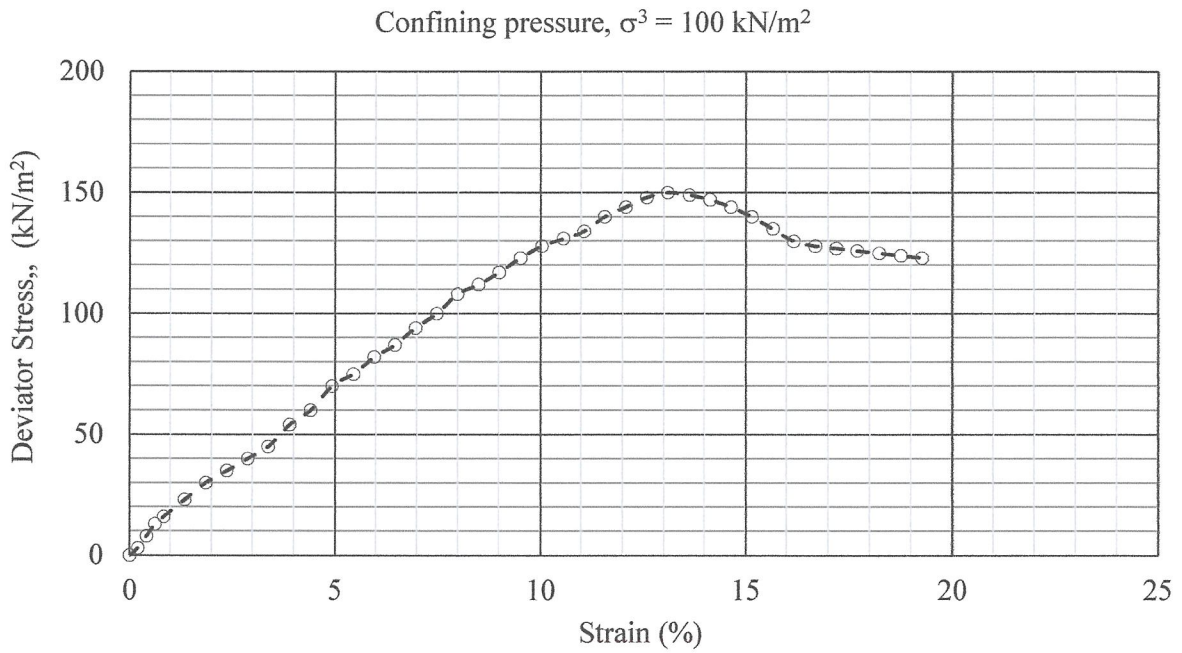

Figure Q4(b): Stress vs strain curve of normally consolidated clay
- (b) The deviator stress - strain curve obtained from a drained triaxial test for a normally consolidated soil obtained from Batu Pahat soft soil is shown in **Figure Q4(b)**.